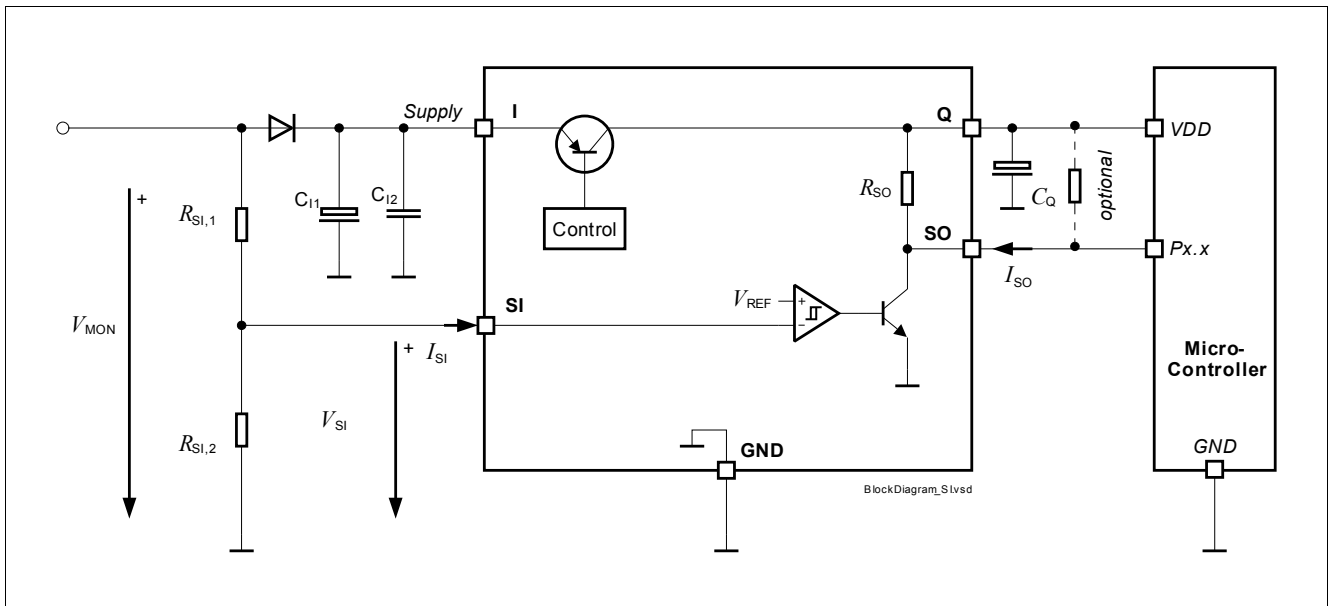

Figure 9 Diagram
- $R_{SI,1}$, $R_{SI,2}$: Resistors of the external voltage divider, see Figure 9.
$V_I = 13.5 \text{ V}$, $T_j = -40 \text{ }^\circ\text{C}$ to $+150 \text{ }^\circ\text{C}$, all voltages with respect to ground, direction of currents as shown in Figure 9 (unless otherwise specified)